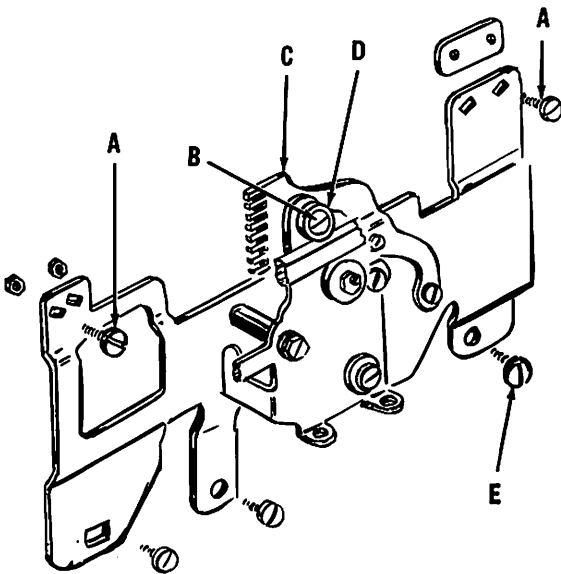

Fig. IX-64
1. Remove the M.R.C. unit (Figure IX-64).
1. Remove case (Figure IX-6), carriage (Figure IX-9) and M.R.C. unit (Figure IX-64).